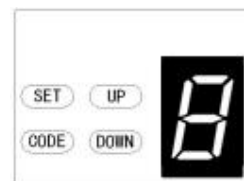

Fig.20
- 19.3 Momentarily press the "Up" button until "7" is displayed on the LED screen. (Fig.20)